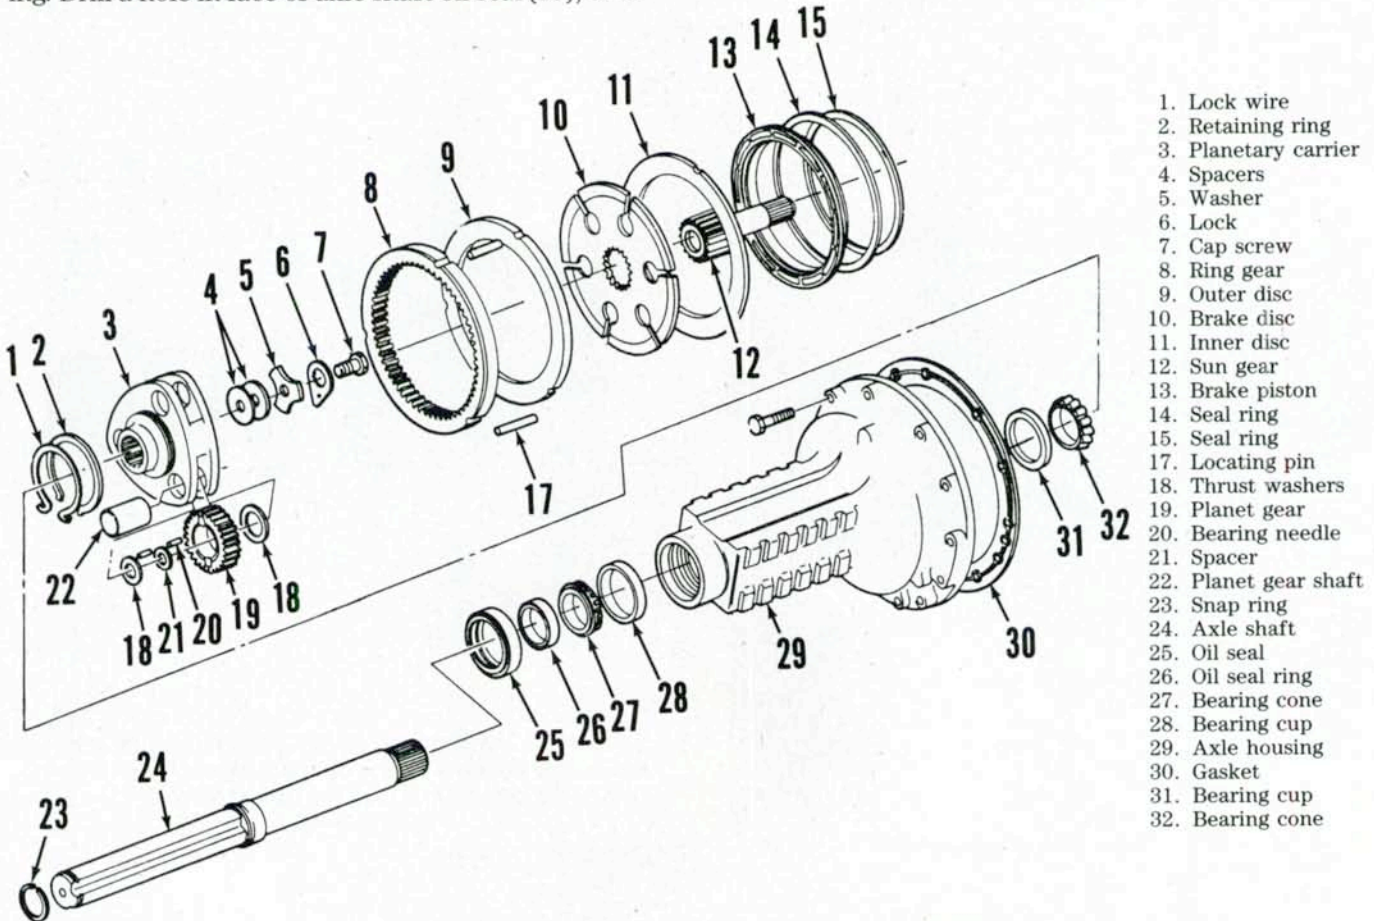

Fig. 239—Exploded view of rear axle assembly and brake components.
**172. OVERHAUL REAR AXLE SHAFT AND BEARINGS.** With rear axle and final drive assembly removed as outlined in paragraph 171, remove axle shaft as follows: Remove lockplate (6—Fig. 239), retaining cap screw (7), washer (5) and shims (4). Withdraw planetary carrier (3) with gears from axle housing. Drill a hole in face of axle shaft oil seal (25), then
Remove planetary gears (19—Fig. 239) and thrust washers (18). There are 54 loose needle bearings (20) and a spacer (21) in each gear.